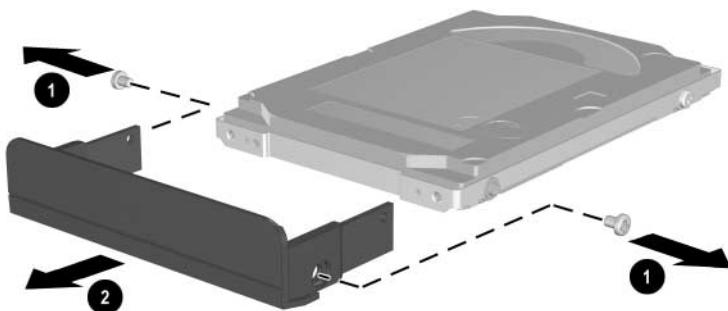

Figure 5-6. Removing the Hard Drive Bezel
7. Remove the two PM3.0 × 4.0 screws 1 that secure the hard drive bezel to the hard drive (Figure 5-6).